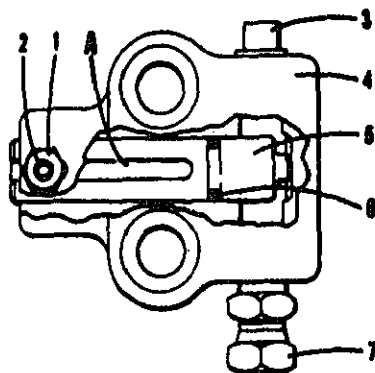

FIG. 11-8
- (d) Loosen setscrew on receiver housing and remove piston from housing. See Fig. 11-8.